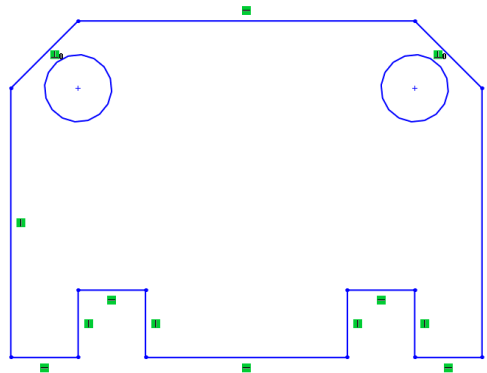

Figure 2-72 Sketch after drawing the two inner circles
7. Similarly, draw the circle on the left using the inferencing lines generating from the endpoints of the left inclined line. The sketch after drawing the two circles inside the outer loop is shown in Figure 2-72.